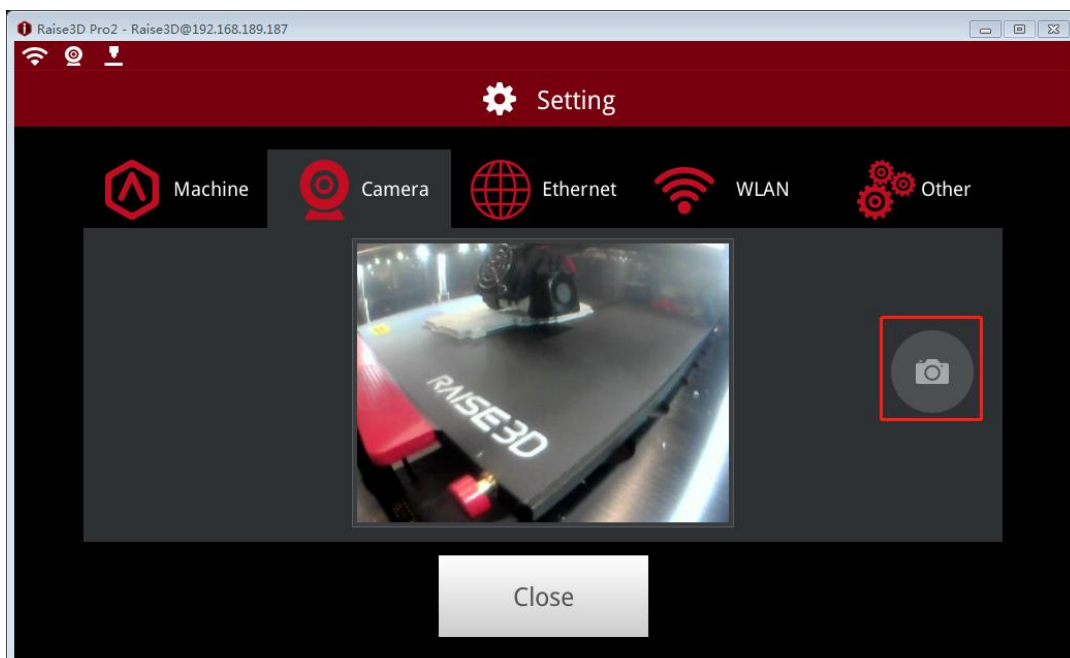

Figure 3.39: Take photo.
Step 3: Take photo and save it in your computer as **Figure 3.39**.